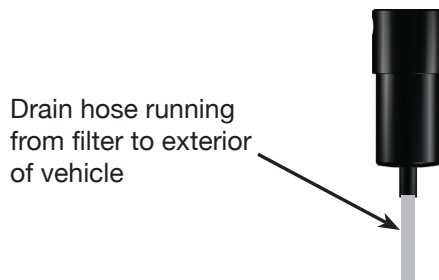

fig. 8
5. Run hose from bottom of filter to location where water will drain (fig. 8).